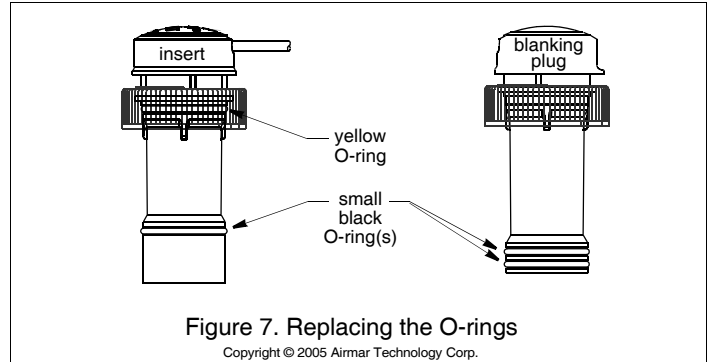

Figure 7. Replacing the O-rings
1. The O-rings must be intact and well lubricated to make a watertight seal. On the blanking plug, inspect the O-rings (replace if necessary) and lubricate them with the silicone lubricant supplied or petroleum jelly (Vaseline®) (see Figure 7).